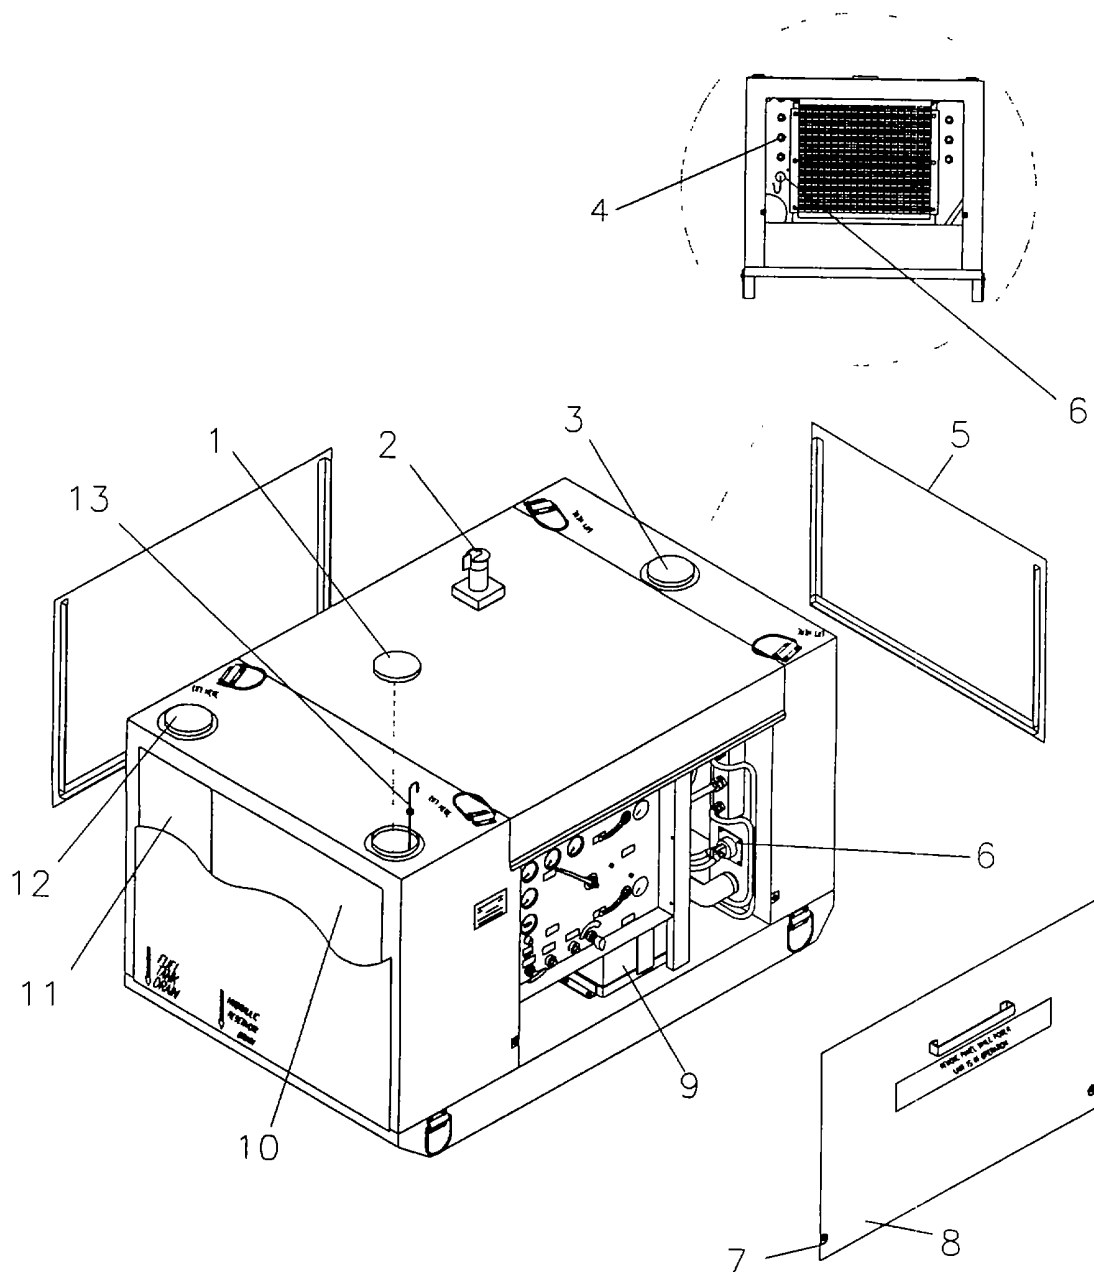

Figure 1-2. Major Components.
1 11 LOCATION AND DESCRIPTION OF MAJOR COMPONENTS. (Figures 1-2 and 1-3).
1.11 1 Figure 1-2 indicates the location of the following major components found on the power supply: